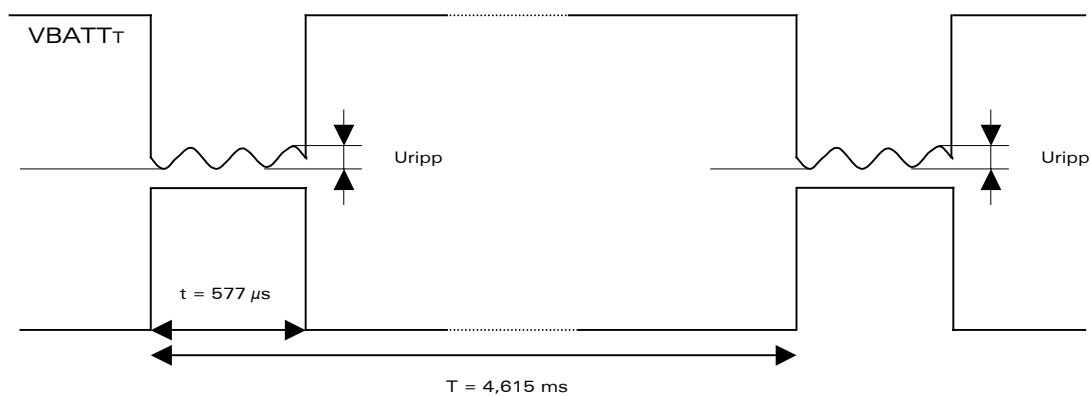

Figure 2: Power supply during burst emission
- In communication mode, a GSM/GPRS class 2 terminal emits $577\mu s$ radio bursts every 4.615ms. (See Figure 2: Power supply during burst emission).